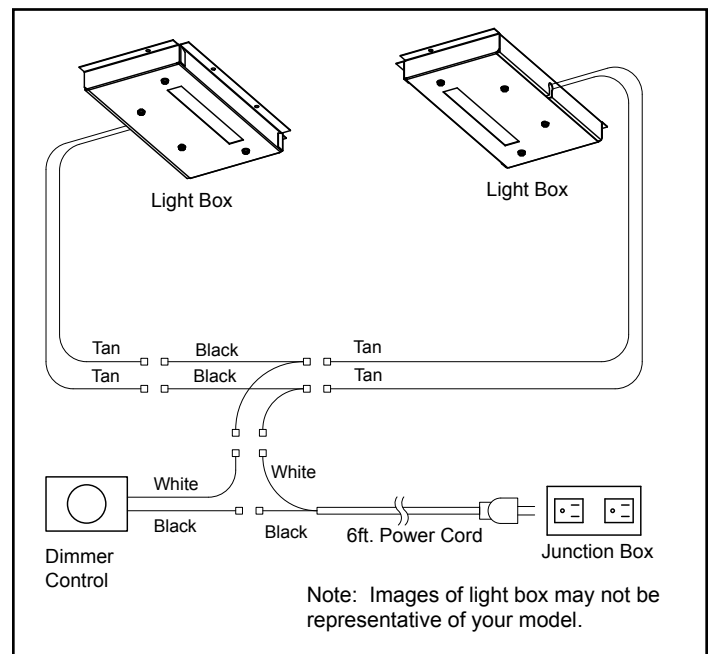

Figure 5 - Wiring Diagram
7. Attach wires from light sockets from each side into the light join harness. Two (2) male spades from each light socket should attach into the paired female spades of the light join harness. See wiring diagram Figure 5.